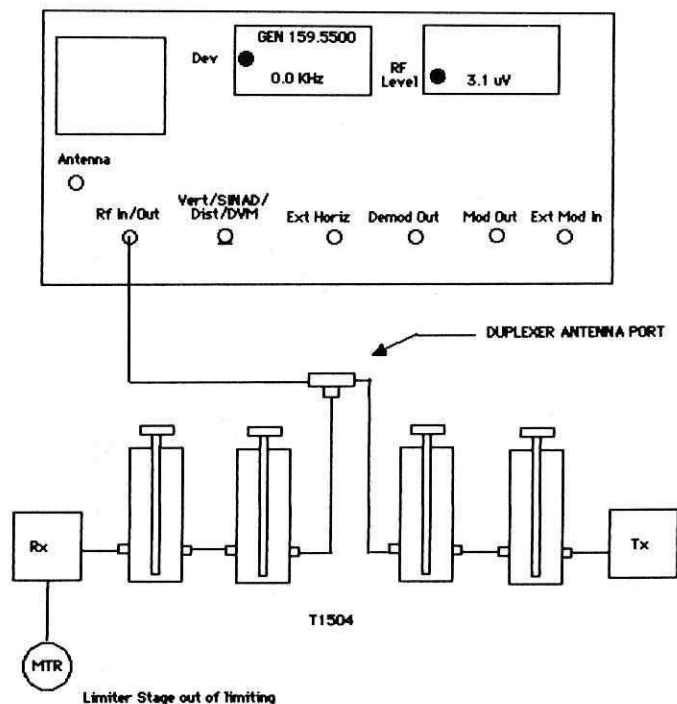

FIGURE 5.11 – DUPLEXER PASSBAND ADJUSTMENT SETUP
1. Connect the service monitor's "RF In/Out" to the in-service duplexer antenna port as shown in figure 5.11.